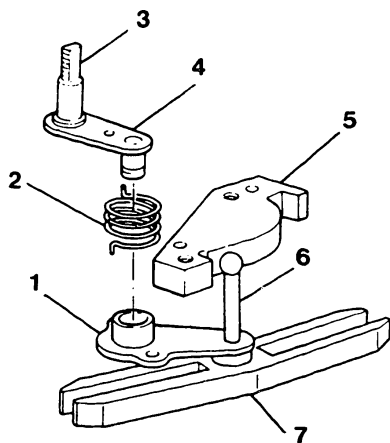

Fig. 116 Cam plate and No. 2 supporting lever
1. If the cam surface shows excessive wear, replace the cam plate. (Fig. 116)